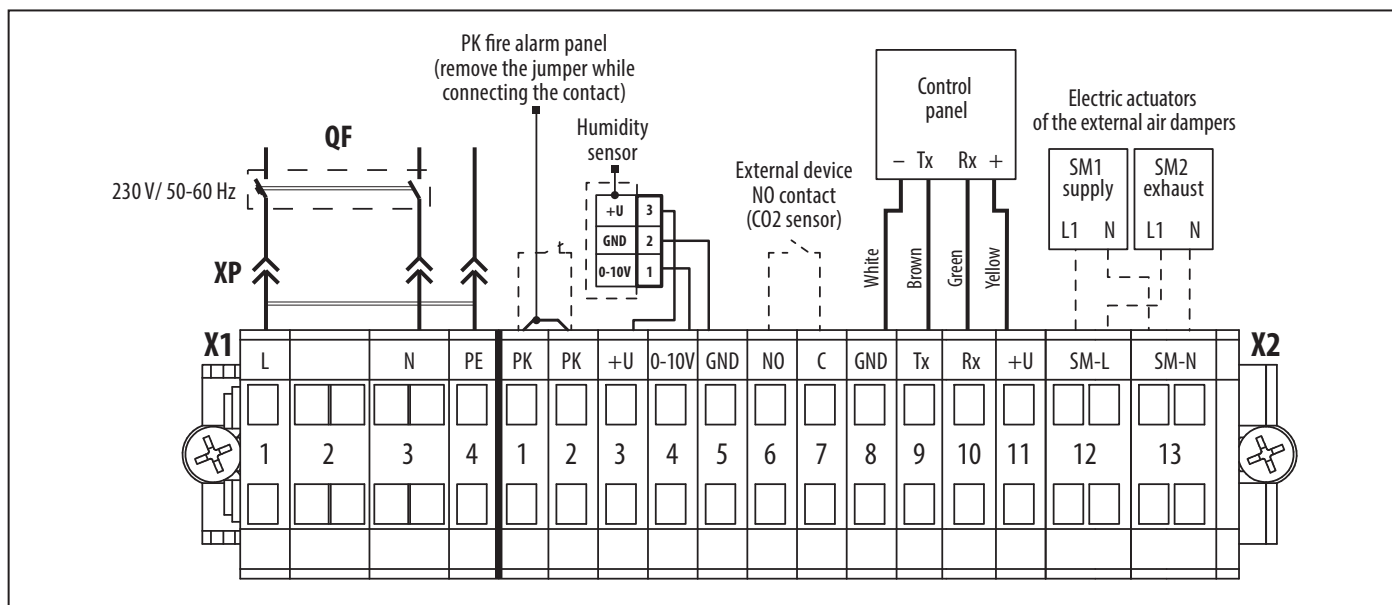

Fig. 18. Wiring diagram of the KOMFORT EC S15 / KOMFORT EC SB S15 units
3. Fix the back side of the casing to the mounting box through the mounting holes, then connect the cable to the control panel in accordance with the wiring diagram Fig. 18.
3. Fix the back side of the casing to the mounting box through the mounting holes using two screws from the delivery set, then connect the cable to the control panel in accordance with the wiring diagram Fig. 18.
The unit has an option of additional external controls connection to the X2 terminal block, which is located on the hinged electrical mounting plate of the control unit. Extra connections to the unit are shown in dotted lines in the Wiring diagram, see Fig. 18.